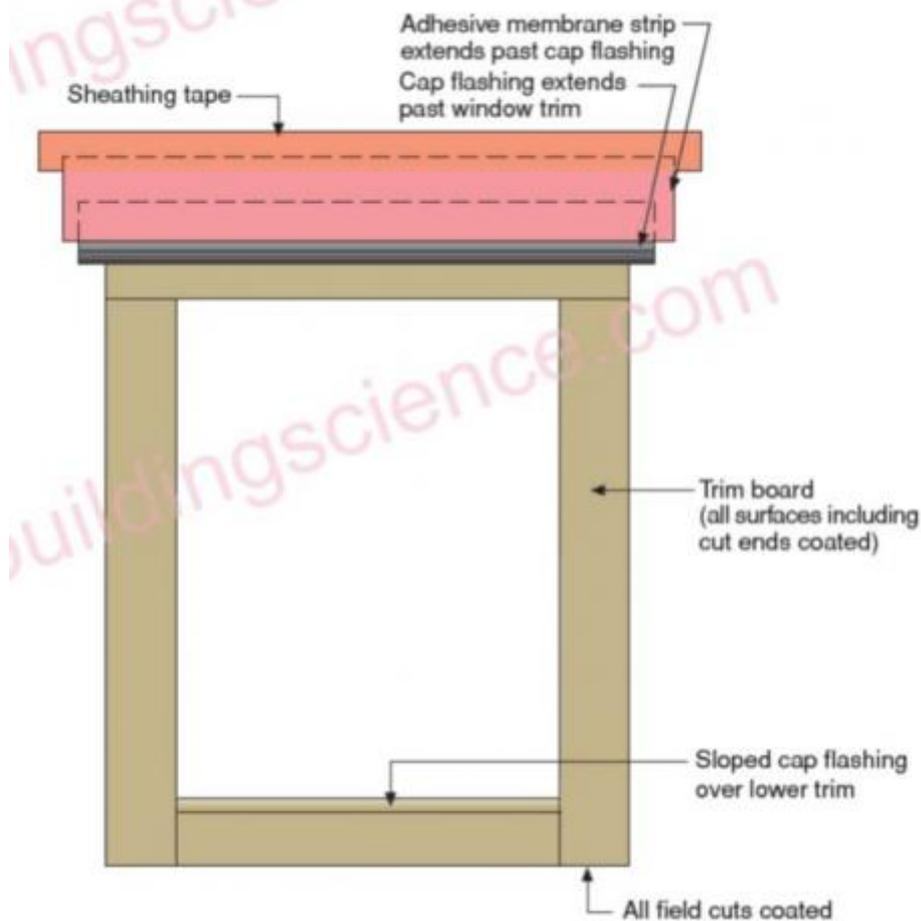

Figure 8 - Install trim and cap flashing above the window.
6. Install trim that has been painted or primed on all sides. Above top trim, install cap flashing that extends past trim. Cover top edge of cap flashing with adhesive membrane strip. Cover top edge of membrane with sheathing tape. See Figure 8.